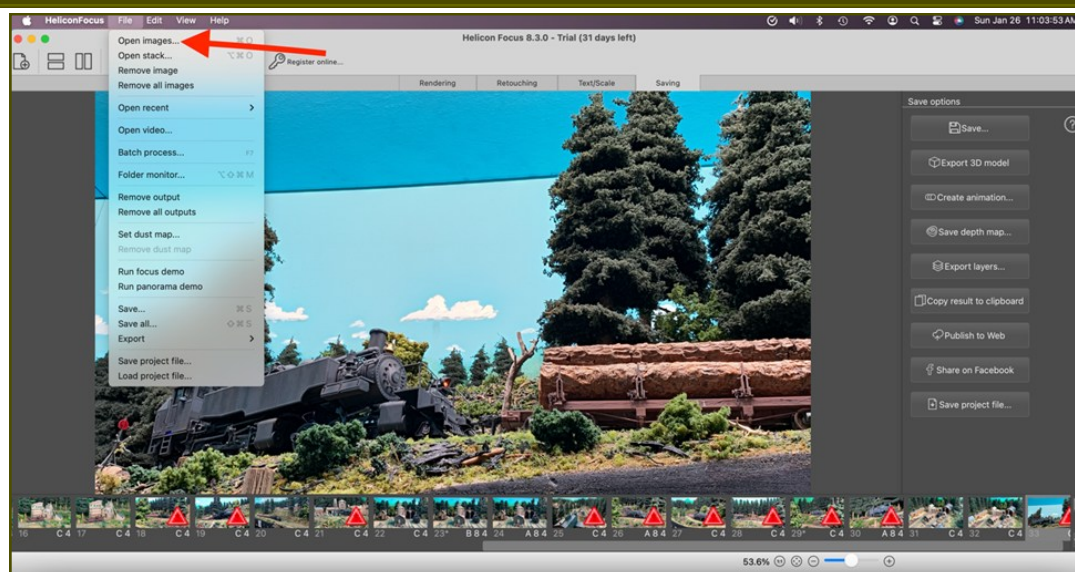

Figure 3 File Menu and Open Images
- On the File menu at the top, select “Open Images”. Reference Figure 3.